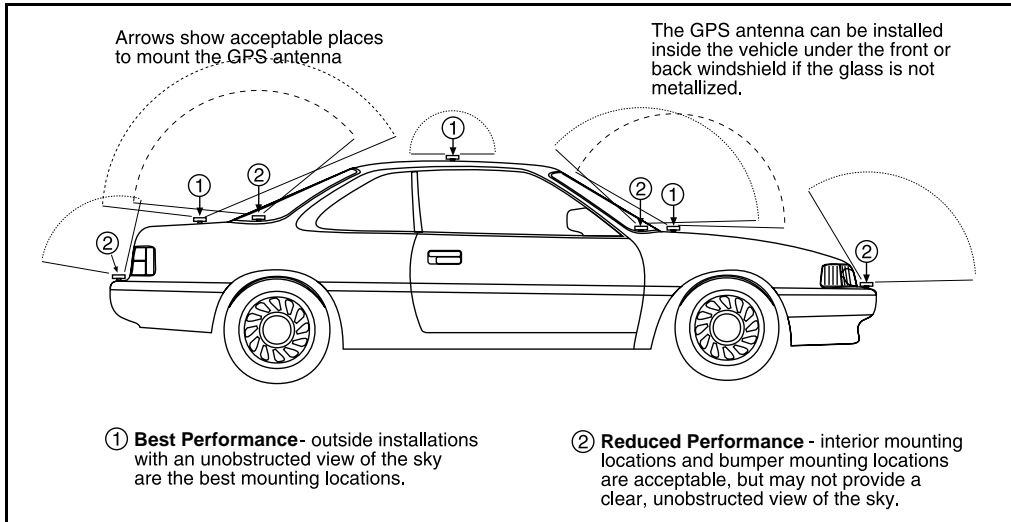

Figure 2.5 Antenna Mounting Locations for Automobile
- Mount the antenna in a horizontal position facing the sky, as shown in Figure 2.5.
Figure 2.5 shows typical antenna-mounting locations for an automobile.